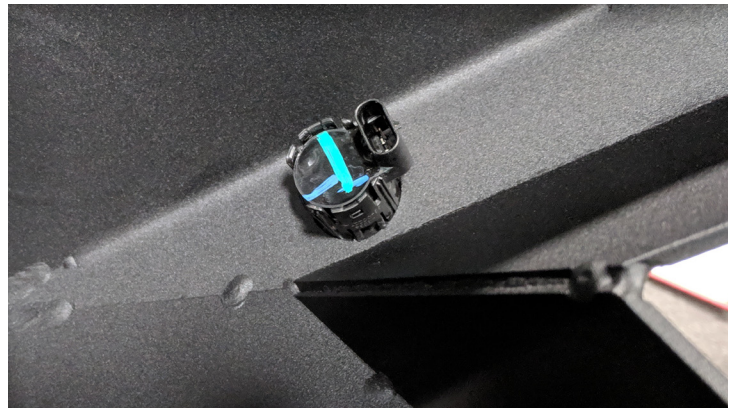

Figure 19
18. Install the one (1) dished faced sensor housing and one (1) straight sensor into the passenger side inner wing sensor hole. (Figure 19)